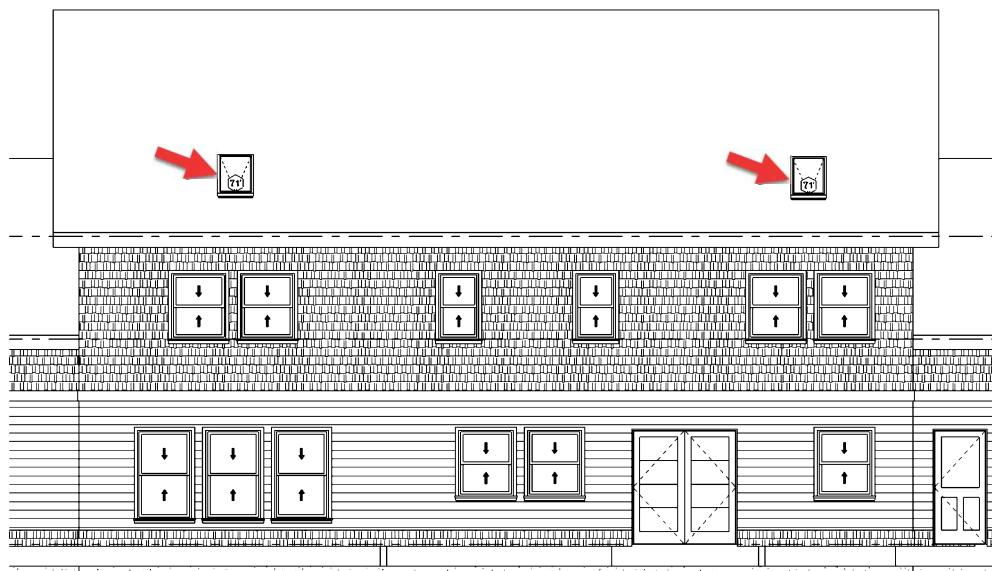

FIGURE 8-4.1 North elevation, skylights added
5. Roughly place two skylights as shown in Figure 8-4.1.